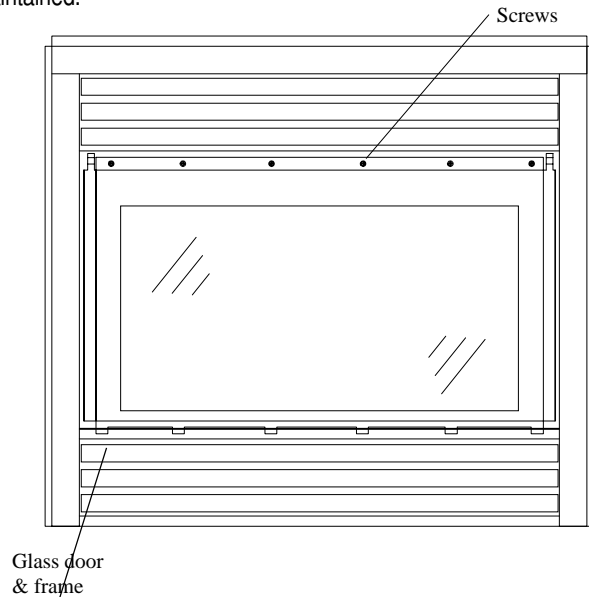

Figure 25b. Installing Glass Door.
To install/remove the glass door simply attach/remove the four (4) machine screws, align tabs at the bottom of the door with the slots in the bottom door rail (*See figure 25b*). Ensure that a good seal is maintained.